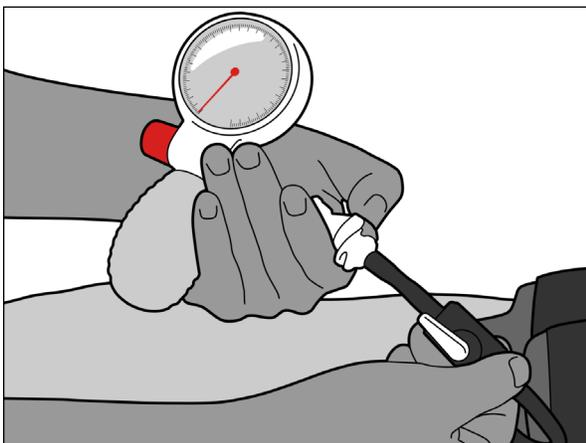

Fig. 21
2. Disconnect the Quick Disconnect Fitting by pressing the grey button on the Quick Disconnect Fitting (Fig. 21).